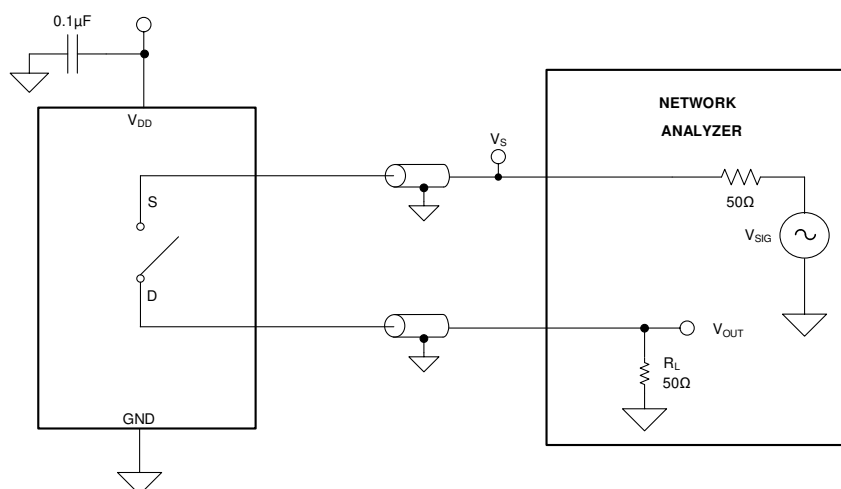

Figure 21. Off isolation measurement setup
Off isolation is defined as the ratio of the signal at the drain pin (D) of the device when a signal is applied to the source pin (S) of an off-channel. The characteristic impedance, Z_0 , for the measurement is 50 Ω. Figure 21 shows the setup used to measure off isolation. Use off isolation equation to compute off isolation.